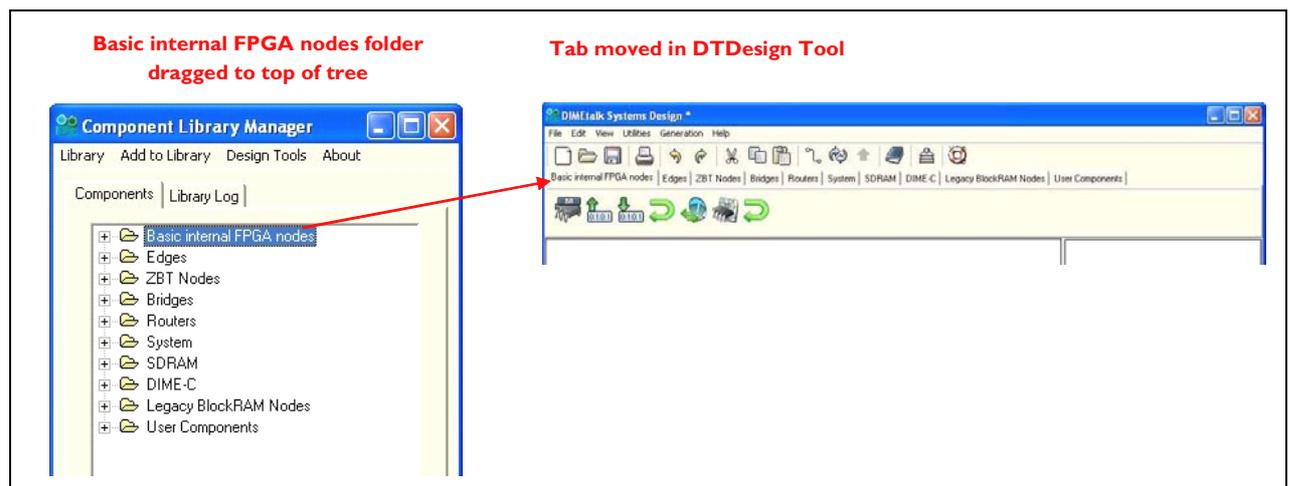

Figure 52: Moving Components within Library Manager
2. In the Library Manager window drag a component folder - in this case 'Basic internal FPGA' nodes - to the top of the tree as shown in **Figure 52**. Close the Library Manager and in the DIMETalk design window this tab now appears as the first tab.